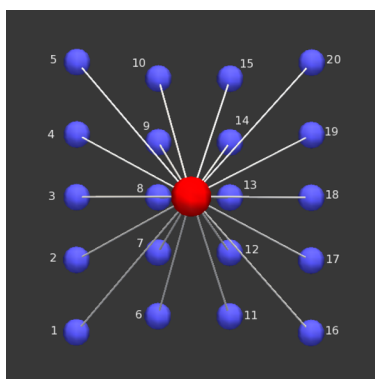

Figure 2: Scan points labeled in acquisition order.
**Order of Acquisition** The points were acquired in the order shown in Figure 2.